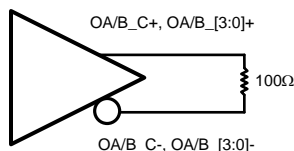

Figure 3. DS90C187 (Transmitter) LVDS Output Load
| V_{OD} | Differential Output Voltage | $R_L = 100\Omega$ Figure 3 | $V_{ODSEL} = V_{IH}$ | 160 (320) | 300 (600) | 450 (900) | mV (mV _{P-P}) |
| ΔV_{OD} | Change in V_{OD} between Complimentary Output States | $R_L = 100\Omega$ Figure 3 | | | | 50 | mV |
| V_{OS} | Offset Voltage | $R_L = 100\Omega$ Figure 3 | | 0.8 | 0.9 | 1.0 | V |
| ΔV_{OS} | Change in V_{OS} between Complimentary Output States | $R_L = 100\Omega$ Figure 3 | | | | 50 | mV |